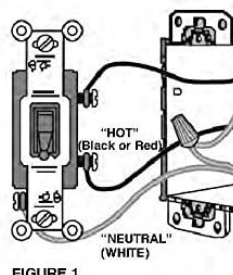

FIGURE 1
2. Remove wall plate and disconnect light switch. Make sure both "hot" and neutral wires are present in the junction box. (See Fig. 1.) If both wires are not present, additional wiring will be necessary before installation can be completed.